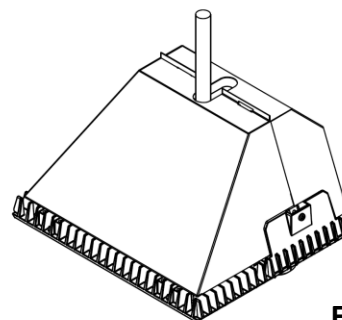

Fig. 12
5. See Fig. 12 for final installed Bird Shroud.